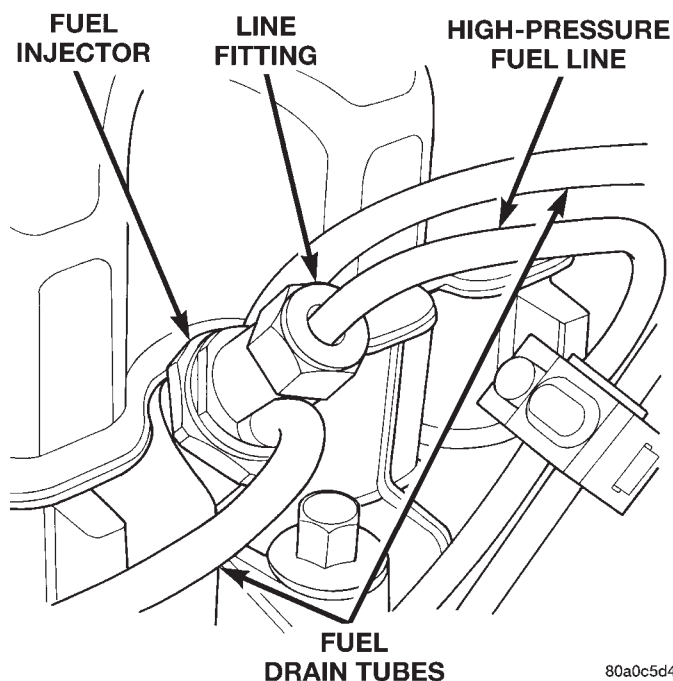

Fig. 43 Fuel Injector—Typical
(1) Disconnect negative battery cable at battery.
(2) Thoroughly clean the area around the injector with compressed air.
(3) Remove the fuel drain hoses (tubes) at each injector (Fig. 43) being serviced. Each of these hoses is slip-fit to the fitting on injector.
(4) Remove the high-pressure fuel line at injector being removed. Refer to High-Pressure Fuel Lines in this group for procedures.